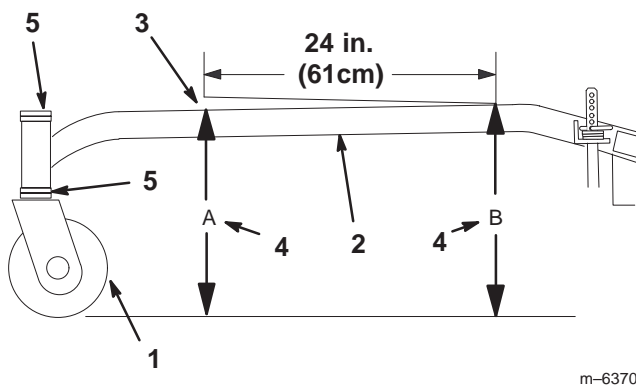

Figure 47
The carrier frame must have a pitch of a 1/4 inch (6 mm) over the length of 24 inches (61 cm) on the carrier frame (Fig. 47).
- Measure out 24 inches (61cm) on the carrier frame (Fig. 47).
- Measure carrier frame height at location **A** (Fig. 47).
- Measure carrier frame height at location **B** (Fig. 47).
- The height at location **A** must be a 1/4-3/8 inch (6 mm -10 mm) lower than location **B** (Fig. 47).
- If the carrier frame is not correct, move caster spacers to make it a 1/4-3/8 inch (6 -10 mm) pitch (Fig. 47). Move spacers from top or bottom to make the correct pitch.